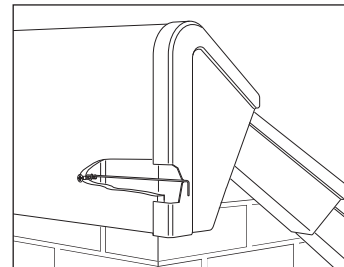

Fig. 11 – Mono-ridge end cap
- 18 Prior to fixing the gable end mono-ridge tile push the security wire through the outside face of the mono-ridge tile (using the same fixing hole for screwing the mono-ridge tile to the wall) and bend through 90° (Fig. 11).